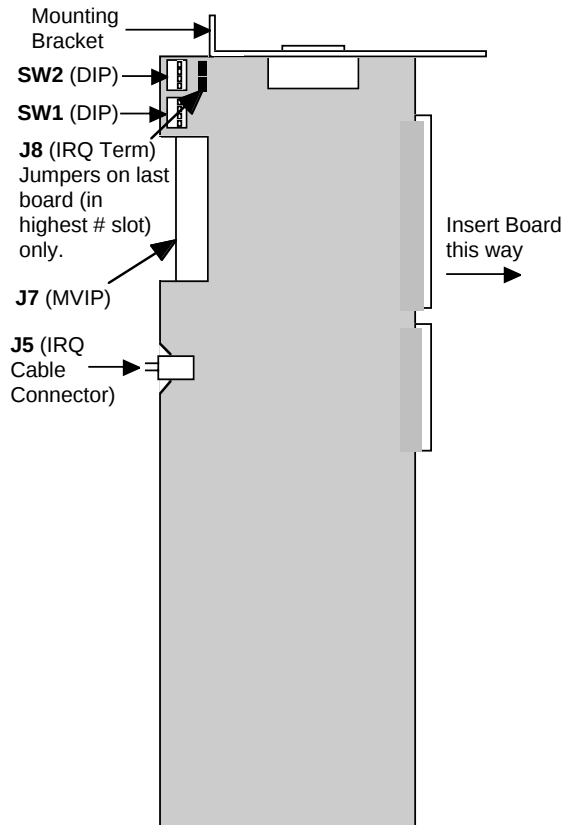

Figure 2-10
1. Remove the **MVIP cable** from connector **J-7** on all installed **DTI** board(s). Refer to **Figure 2-10**.
2. Remove the **IRQ** cable from connector **J-5** on all installed boards. Refer to **Figure 2-10**.
6. With connector **J-7** facing the front of the unit and the mounting bracket on top, slide each new **DTI** card into place. Refer to **Figure 2-10**.
7. Reconnect the **MVIP** cable to **J-7** on all **DTI** boards. Refer to **Figure 2-10**.